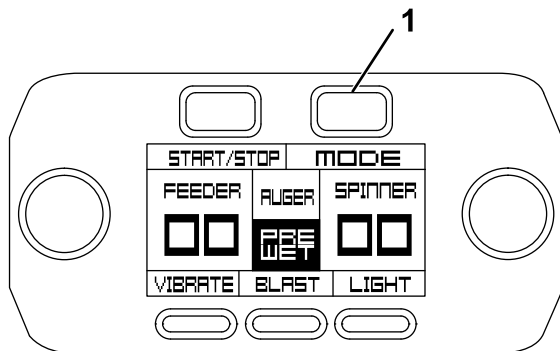

Figure 52
- To configure the dump switch, press the Mode button on the controller (Figure 52).